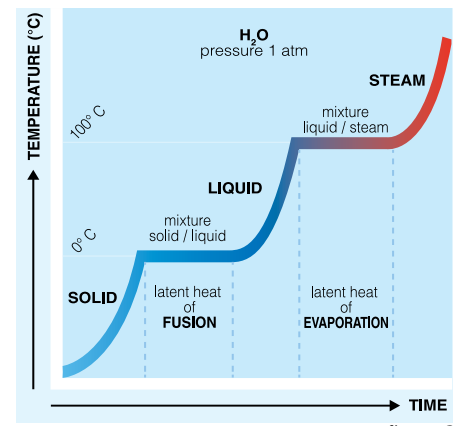

figure 2
2. The three states of water and the change from one state to the other are represented in Fig.2. The vaporization temperature, with a pressure of 1 atmosphere, is 100° C. The phase in which heat is given but there is no water temperature increase is defined as latent heat, in fact, in this phase the given heat is only needed to change the state of water from solid to liquid or from liquid to steam. The latent heat of vaporization is thereafter the quantity of heat needed to transform completely in steam a liquid unitary mass when this is at boiling temperature.